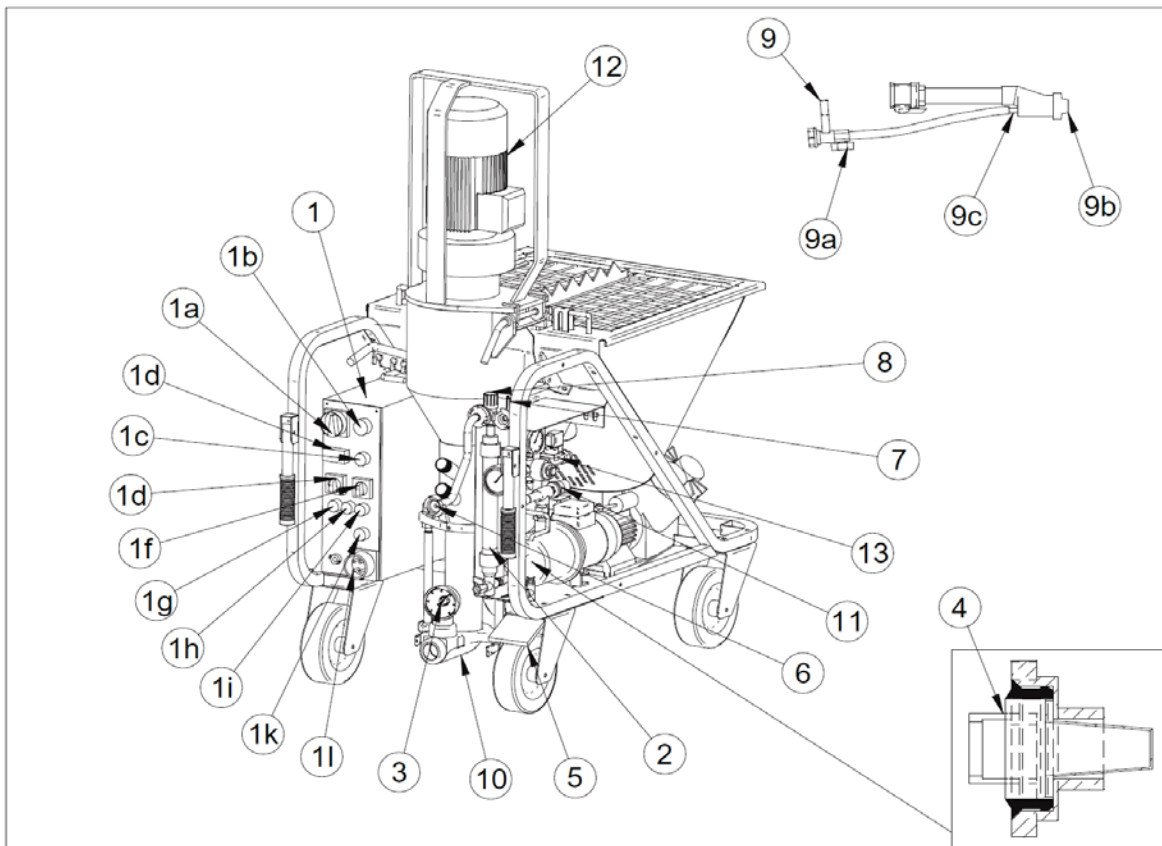

FIG.10
Close the air valve (ref.9a) supplying the spray jet (fig.10).